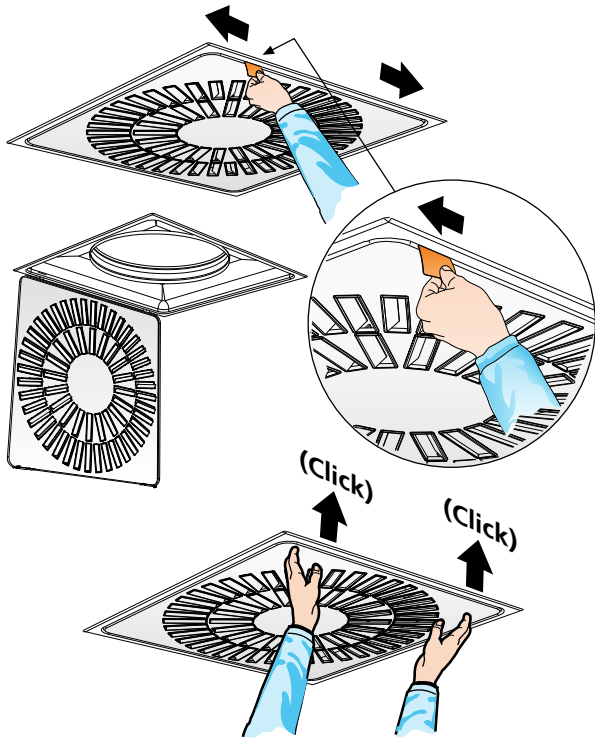

Figure 1. Quick Access.
- Quick Access system makes it easier and faster to open and close the diffuser face for installation cleaning, see figure 1.
- Move the card from the centre out towards the corner, see figure 1.